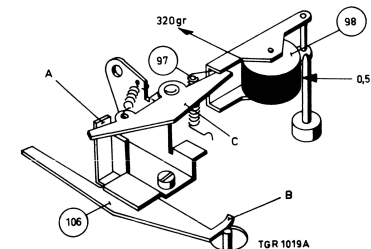

Fig. 10
Check, see Fig. 10
- Detach bracket, item 306, and shift this bracket until the clearance between the stop on the push-button and bracket, item 121, is approx. 0.5 mm. Depress the playback button and the interval button; the clearance between the capstan and the pressure roller should then be 0.5 mm. This clearance can be adjusted by bending tag A on bracket, item 106, see Fig. 10.
Pressure roller, item 98, see Fig. 10
- The force exerted on the capstan by the pressure roller should be approx. 320 g, measured as shown in Fig. 10.
- This can be adjusted by means of spring, item 97.